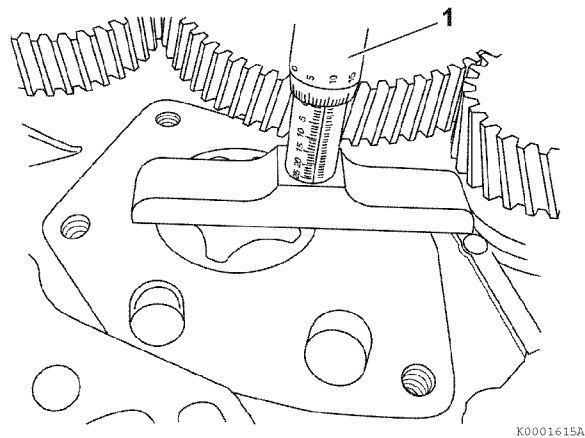

Figure 9-16
Determine the side clearance of the outer rotor across the pump cavity. Measure the depression using a depth micrometer (Figure 9-16, (1)).